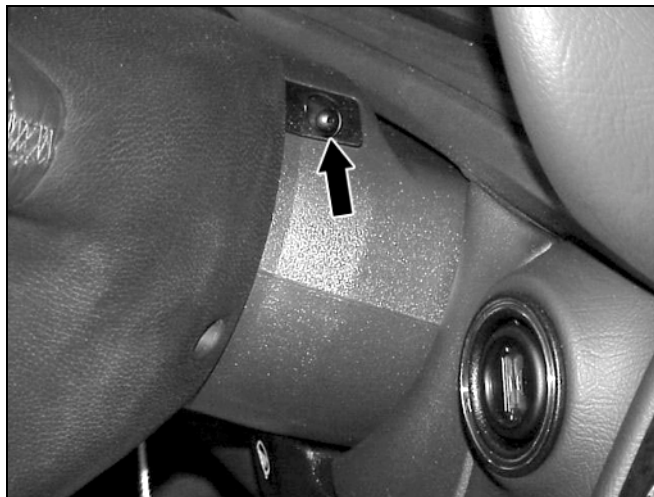

Figure 4
2. Remove the PTT lever switch plug on the steering column opposite the cruise control lever by carefully inserting a small screwdriver between the plug and switch opening and then gently prying away the plug (Figure 4).